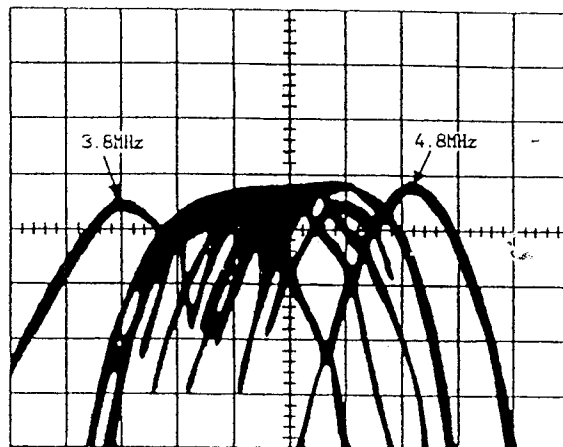

Fig. 16
- (1) Input the color bar signal to the VIDEO IN.
- (2) Connect TP4001 to the input terminal on the spectrum analyzer, then adjust 3.8MHz and 4.8MHz as shown in Fig. 16 with VR4001 and VR4002.